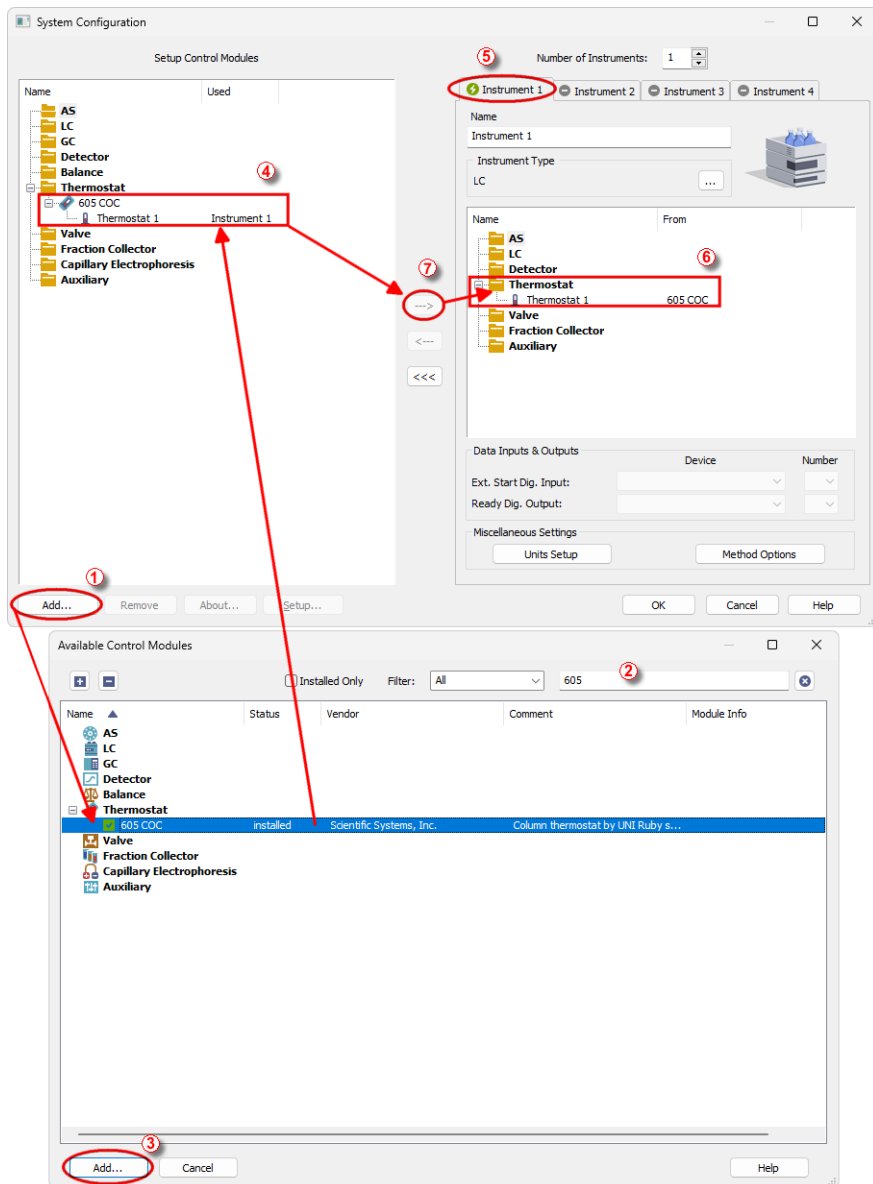

Fig. 3: How to add the SSI 605 module
- Press the **Add** button (① on **Fig. 3** on pg. 4.) to invoke the *Available Control Modules* dialog.
- You can specify the search filter (②) to simplify the finding of the driver.
- Select the correct item and press the **Add** (③ on **Fig. 3** on pg. 4.) button. Each device with already created UNI profile should have its own item named accordingly in the *Available Control Modules* dialog.